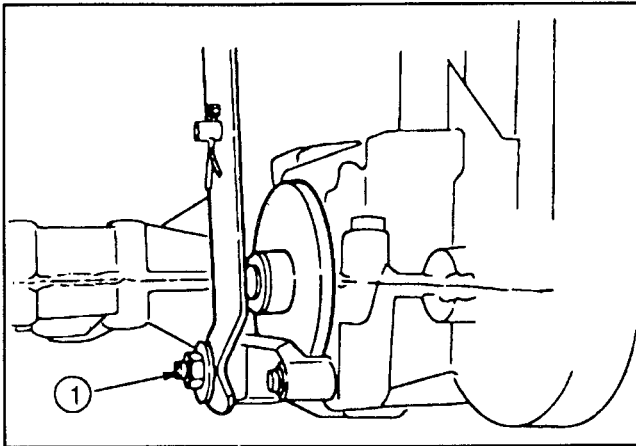

Figure 30
3. Tighten the locknut approximately 1/4 turn clockwise (Fig. 30).